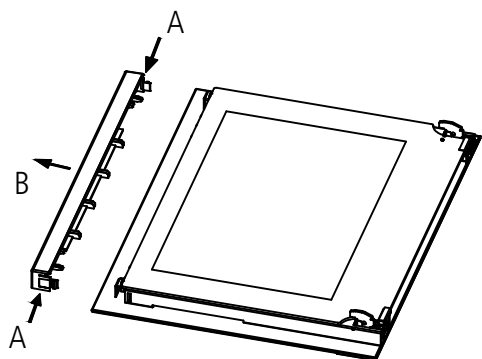

Fig.1
1. Press the button (A) on left and right side of door, take out top rail. (Fig.1)